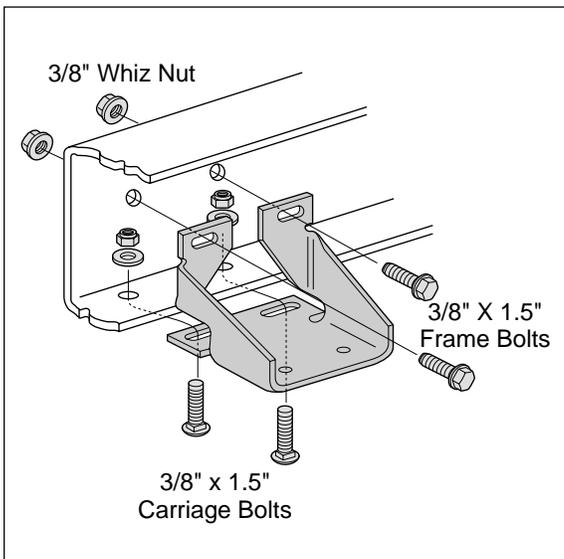

Figure 3
3. Loosely attach upper bracket to the frame rail by using the  $\frac{3}{8}" \times 1.5"$  washerhead frame bolts (L) and whiz nuts (N) through the side of the rail and the two  $\frac{3}{8}" \times 1.5"$  carriage bolts (K) through the flange (Figure 3).